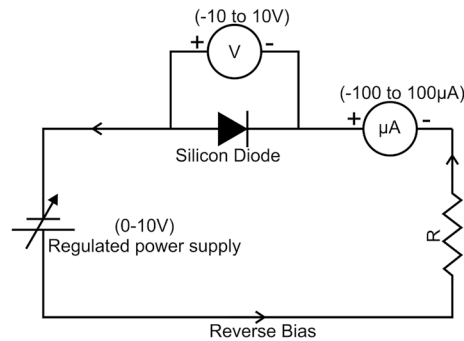

Fig P14.2
8. Connect the p-n Junction diode (Si/Ge) in reverse bias as shown in Fig. P14.2.